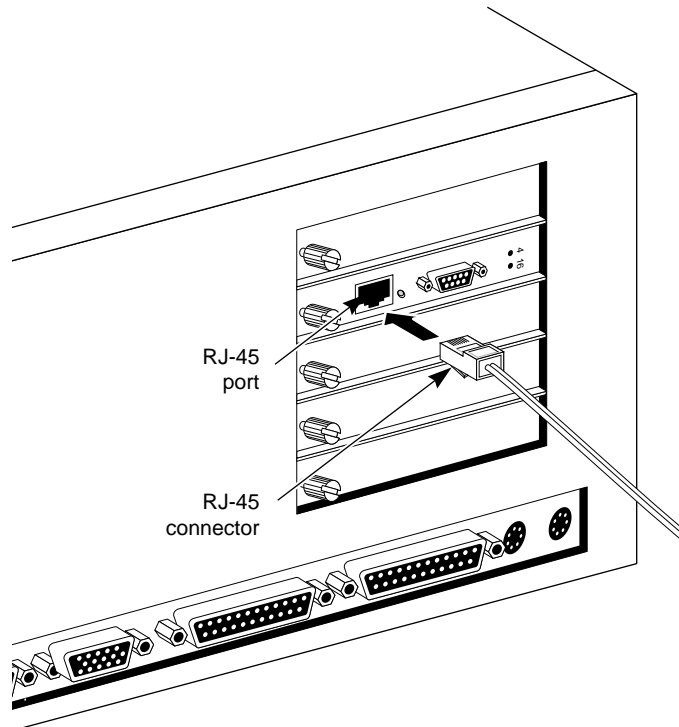

Figure 1-5. Connecting the RJ-45 Cable
1. Locate the adapter's RJ-45 connector on the backplate, as shown in Figure 1-5.